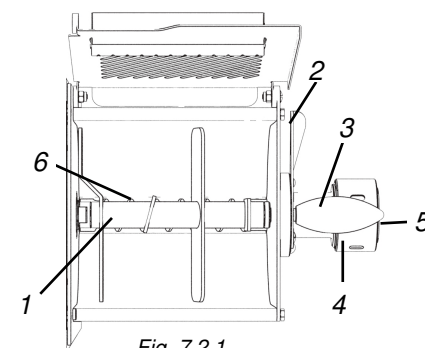

Fig. 7.2.1
1. Put the blade "1" in the position shown in Fig. 7.2.1.
WARNING! If the blade is not lying in the position shown in Fig. 7.2.1, it **cannot** be removed.